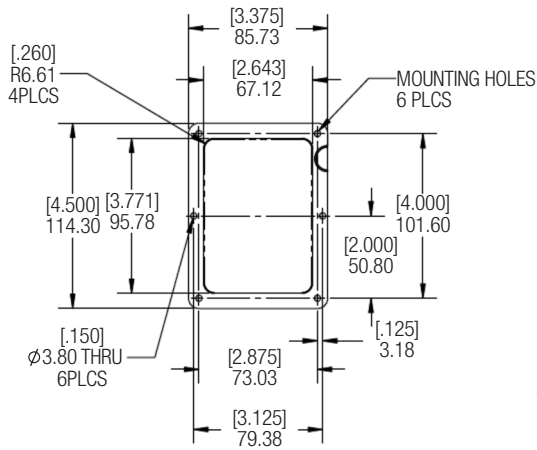

Figure 1
This Helios™ charger requires (6) #6 x 1/2" Phillips round-head wood screws (not included) to be inserted into the provided holes to hold the charger in place, assuming the work surface is 3/4 inch thick (see Figures 1 and 3). Special consideration for the screw size must be taken by the installer; the screw length should not pierce through the top surface of the work surface and may differ from work surface to work surface.